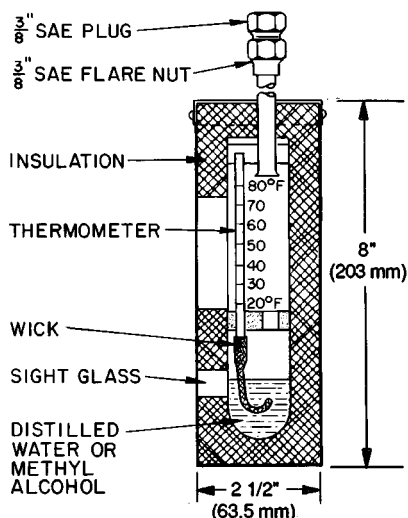

Fig. 23 — Typical Wet-Bulb Type Vacuum Indicator
- absolute pressure manometer or wet-bulb vacuum indicator (Fig. 23)